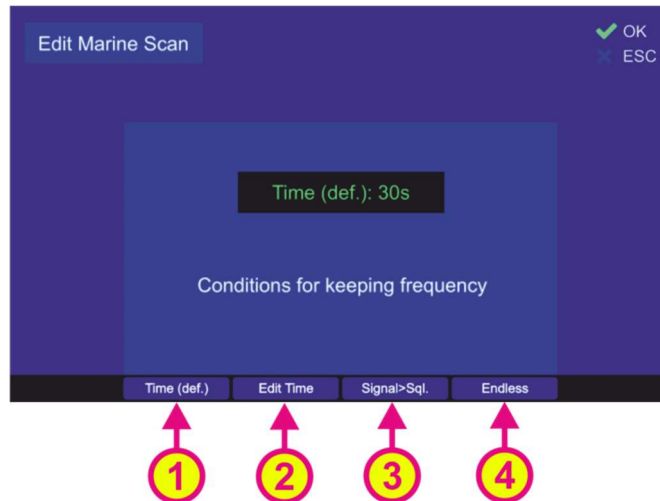

Figure 48. Marine scan settings
- Pressing the hotkey “Edit Scan” (s. Figure 47, position 6) will open the dialog for changing the settings of the marine scan (s. Figure 48).
- “Time (def.)” hotkey (s. Figure 48, position 1) defines the behavior of the marine scan algorithm if the active frequency (signal level > squelch level) has been found. If this hotkey is pressed, the default time of 30 seconds will be adopted after confirming this setting with “OK”. Marine scan algorithm will stay for the default time of 30 sec on an active frequency before continuing with scanning of the lower marine band.
- Pressing the hotkey “Edit Time” (s. Figure 48, position 2) will open a dialog for editing the time of staying on the actively received frequency before continuing with the scan procedure.
- Pressing the hotkey “Signal>Sql.” hotkey (s. Figure 48, position 3) defines the time of staying on the actively received frequency before continuing with the scan procedure. If this setting is confirmed, the scanning procedure will stay on the actively received frequency as long as the signal level is higher than the squelch level.
- If the hotkey “Endless” (s. Figure 48, position 4) was pressed and confirmed with “OK”, the marine scan algorithm will stay on the actively received frequency as long as the user terminates the scan or skips the current frequency.